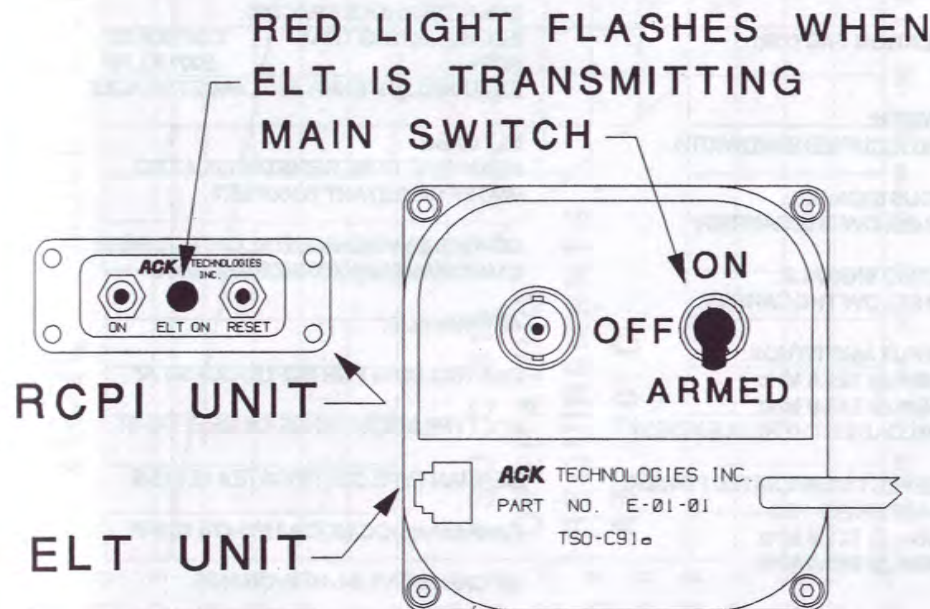

FIGURE 12
2. PRESS THE "ON" BUTTON ON THE RCPI UNIT (SEE FIGURE 12) VERIFY THAT THE RED LED FLASHES. VERIFY THAT THE AUDIO SWEEP TONE CAN BE HEARD ON THE COM RECEIVER. PUSH THE "RESET" BUTTON ON THE RCPI UNIT. THE LED SHOULD STOP FLASHING AND THE AUDIO SWEEP TONE SHOULD STOP.
THE RED LED ON THE RCPI WILL FLASH ON AND OFF INDICATING THE ELT IS TRANSMITTING. SHOULD THE ELT BE ACCIDENTLY ACTIVATED BY TURBULENCE, HARD LANDING, ETC. SHOULD THIS OCCUR UNDER ANY CONDITIONS OTHER THAN AN ACCIDENT REQUIRING IMMEDIATE ASSISTANCE, THE ELT SHOULD BE RESET BY PRESSING THE "RESET" BUTTON ON THE RCPI UNIT. (SEE FIGURE 12) IF THE AIRCRAFT IS ON THE GROUND AND THE "RESET" BUTTON DOES NOT CAUSE THE LED TO STOP FLASHING THE MAIN SWITCH ON THE ELT UNIT SHOULD BE SET TO THE OFF POSITION (SEE FIGURE 12). IF AIRBORNE AND THE "RESET" BUTTON DOES NOT CAUSE THE LED TO STOP FLASHING. THE MAIN SWITCH ON THE ELT SHOULD BE SET TO THE OFF POSITION IF THE ELT IS ACCESSIBLE. IF THE ELT IS NOT ACCESSIBLE IN FLIGHT YOU SHOULD LAND AT THE NEAREST SUITABLE AIRPORT AND SET THE MAIN SWITCH TO THE OFF POSITION. IN EITHER CASE THE UNIT SHOULD BE INSPECTED BY A QUALIFIED FACILITY AS SOON AS POSSIBLE. THE AIRCRAFT MAY BE OPERATED WITH THE ELT REMOVED FOR INSPECTION OR REPAIR SUBJECT TO THE CONDITIONS OF FAR 91.207.